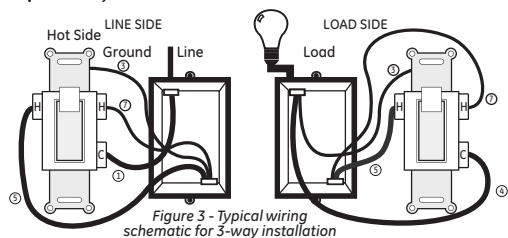

Figure 3 - Typical wiring schematic for 3-way installation
2. Using the LINE Side of Figure 3 as a visual reference, label and remove the LINE wire (1) from the common terminal (C) and the Traveler-2 wire (7) from the HOT terminal (H).
1. Using the Load Side of Figure 3 as a visual reference, remove the LOAD Side 3-way switch and the four wires, labeling the wire removed from the common terminal as LOAD (4) and the wires from the HOT terminals (H) as Traveler-1 (5) and Traveler-2 (7).